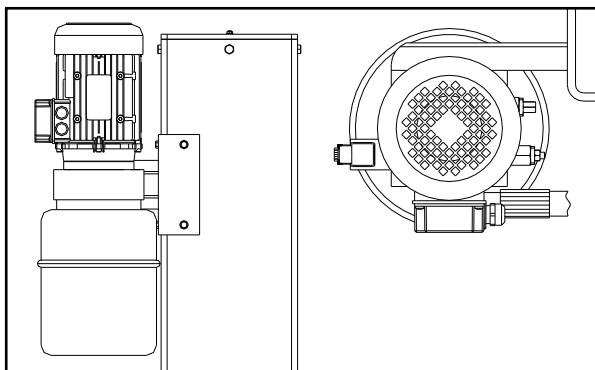

Fig. 31
- ◆ Install the pump on the hock board according to Fig. 31 and fix it on the bottom of main column.